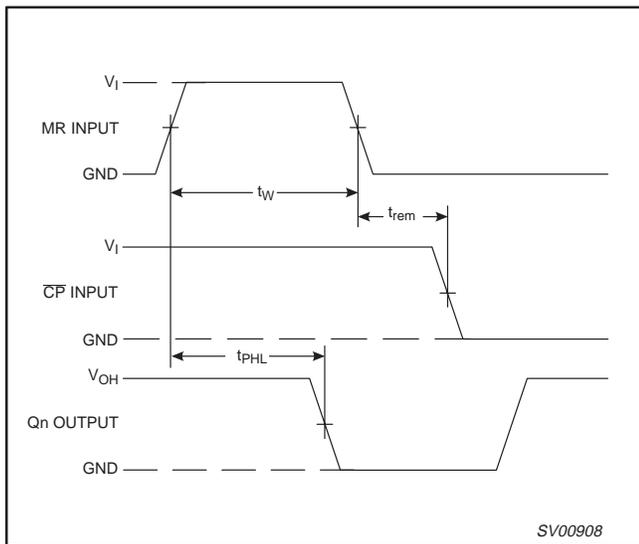

Figure 8. Master reset (MR) pulse width, the master reset to output (Qn) propagation delays and the master reset to clock (CP) removal time
| $t_{\text{PHL}}$                | Propagation delayMR to Q n               | Figure 8, 9     | V CC (V) |                         |                  |     |                          |     | ns   |
| $t_w$                           | Master reset pulsewidth HIGH                        | Figure 8        | V CC (V) |                         |                  |     |                          |     | ns   |
| $t_{\text{rem}}$                | Removal timeMR to CP                                | Figure 8        | V CC (V) |                         |                  |     |                          |     | ns   |